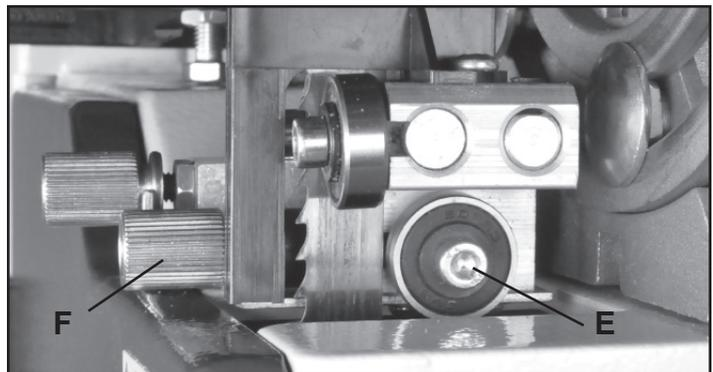

FIGURE 27
4. Adjust the rear bearing guide to be just clear of the back of the saw blade. Loosen the rear guide's Hex Cap Screw (Fig. 27, E), and move the rear guide towards the blade by turning the lower, front micro-adjustment Knob (F). When the correct adjustment is made, lock the guide in place by tightening the hex cap screw (E).